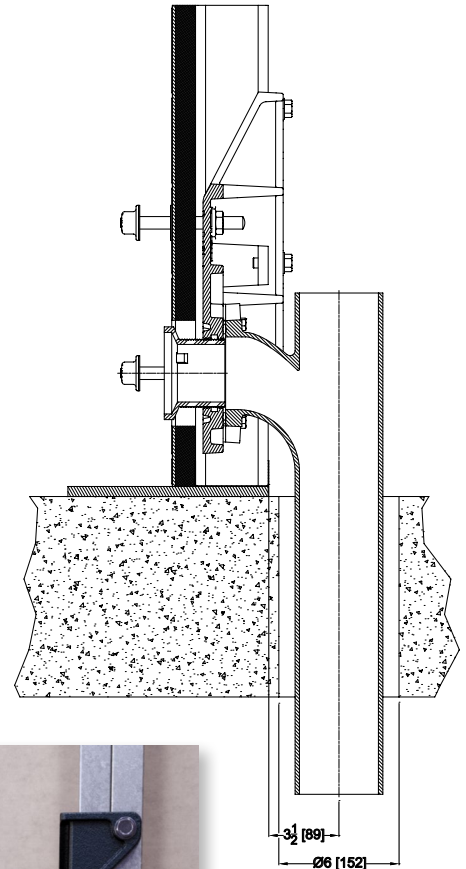

Figure 5
1. To install the vertical fitting, a minimum core drill hole of 6" [152.4] diameter must be located 3 1/2" [88.9] from back of sole plate to center of hole. For floor mount back outlet installation, cut threaded rods flush with back of locknut for fitting clearance when being inserted into the core hole. (Figure 5)
3. Vertically align barrel over core drill hole, and slowly lower into place. If the barrel needs cut to length, no more than 12" [304.8] may be removed. The cut must be square to the barrel and deburred, ensuring sufficient length for connecting to building plumbing. Ensure gasket stays aligned to flange and does not get damaged. (Figure 5)
4. Place fitting over coupling, aligning the slots of the fitting over the countersunk threaded holes on the faceplate. Insert the (4) bolts and hand tighten. Confirm fitting does not interfere with core hole.